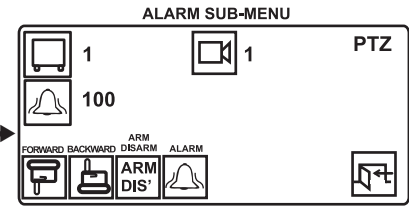
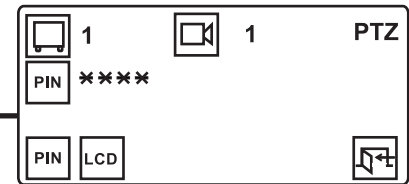
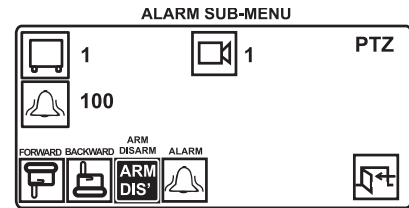

Figure 3-21
Figure 3-22
Figure 3-23
- c. The ALARM SUB-MENU appears. Activate the indicated icon in Figure 3-21 to ARM the alarm. If you have not previously entered a PIN number for the DEF menu, the display in Figure 3-22 appears. Enter the default PIN of **1234**. The display will revert back to Figure 3-21. Press the blue button to activate the ARM function. The ARM DIS' icon turns opaque as in Figure 3-23. This completes ARMing the alarm for Physical Alarm 1.
Additional alarms may be armed from this menu by entering the associated logical number in the keypad and pressing the ALARM (bell) icon. This takes you back to Figure 3-21, which now displays the new number in the menu; the ARM DIS' icon is clear and can now be activated to ARM the next alarm. The result is again Figure 3-23, except that now, the new numbers for the ARMed alarm appear.